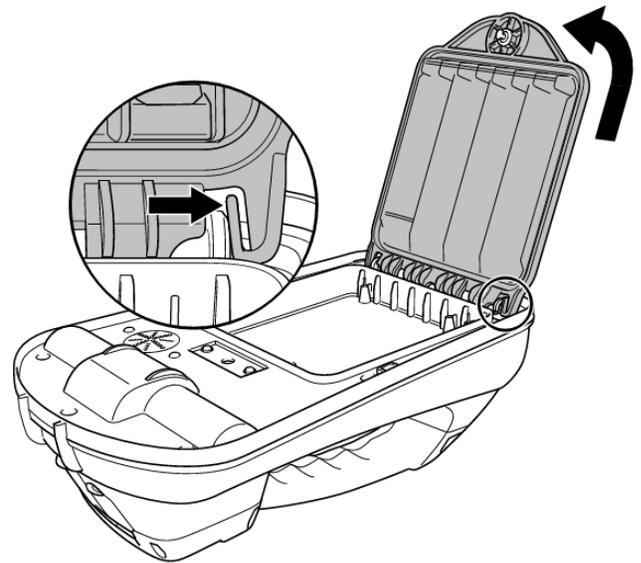

Figure 4.10: Press the release catch and lift the battery pack away
- 3 Release the retaining catch (Refer to Figure 4.10) by pressing gently, then lift the battery pack away.